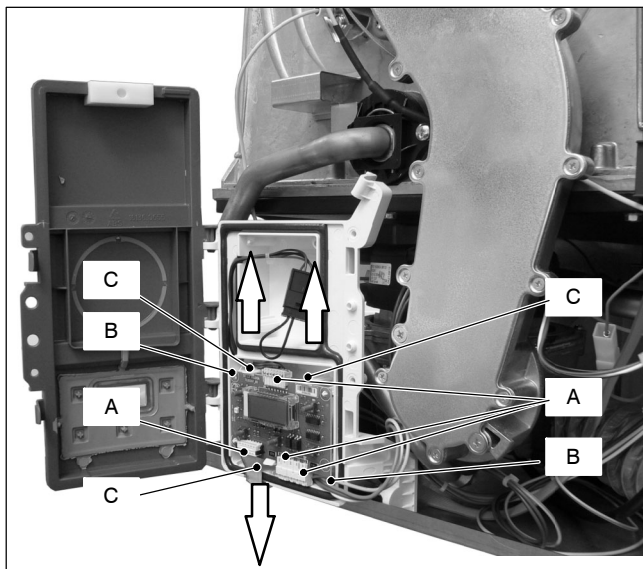

Fig. 7.3
- 3 Remove all the wiring *A* connected to the *Control panel electronic p.c.b.* (Fig. 7.3).
- 5 Delicately flex the hooks *C* in the directions indicated (Fig. 7.3) in order to release the circuit from the box.